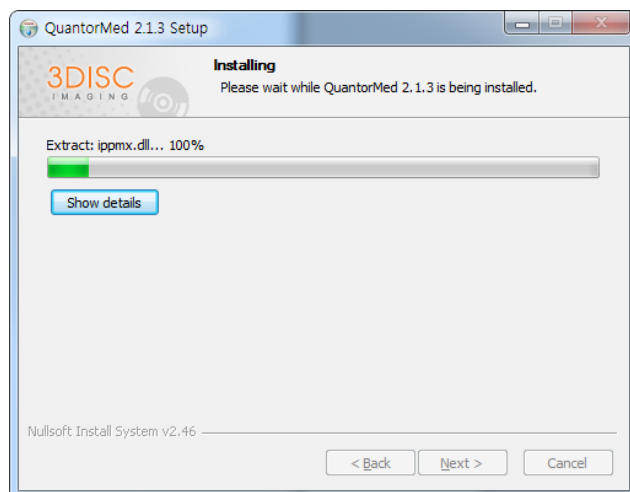

Figure 2.7 Installation Status Dialog Box
- Installation status will be displayed as shown in Figure 2.7